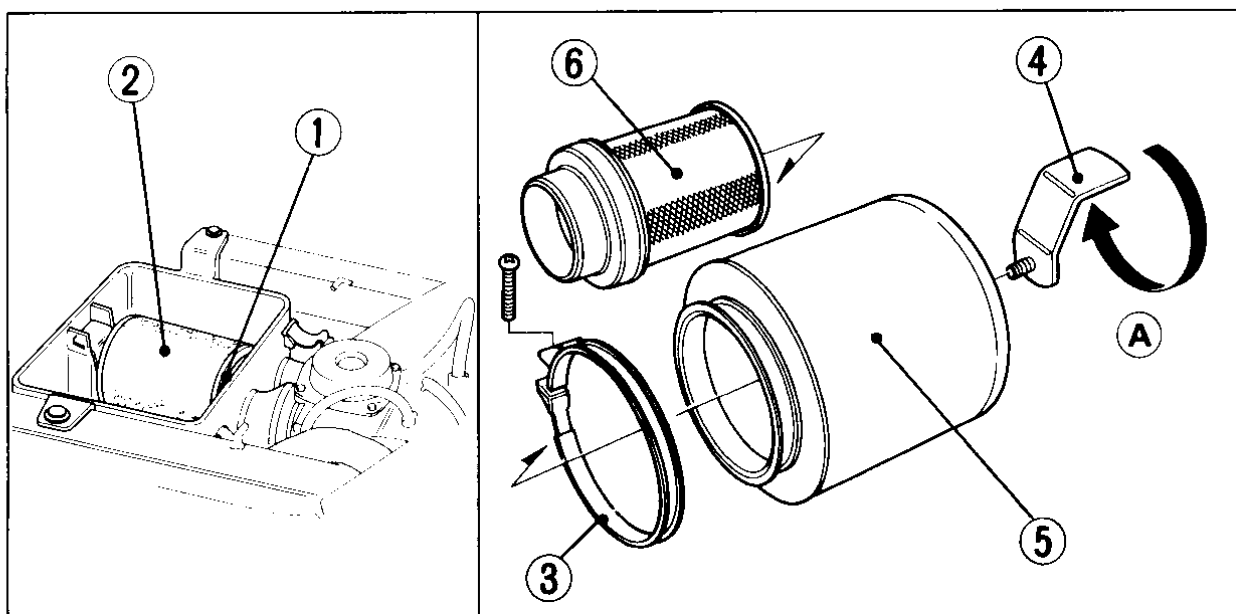

Fig. 4-6
3. Remove the screw (Fig. 4-6) and remove the air cleaner assembly (2) from the case.
4. Unscrew the clamp (3) and remove the mounting bracket (4).
5. Remove the air cleaner (5) from the air cleaner body (6).